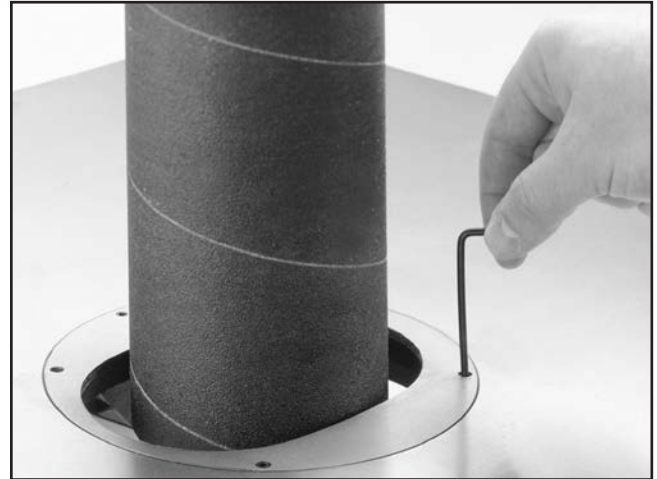

Figure 25. Adjusting table insert.
4. Adjust the set screws shown in **Figure 25** so the top of the insert is flush with the table surface.